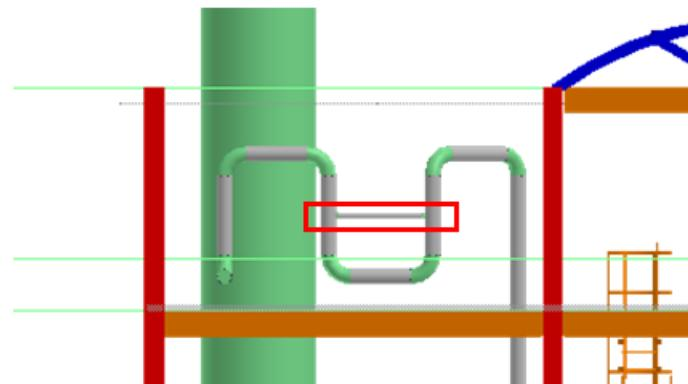

Figure 3.29: Placed Pipe
47. In the graphic view, move the cursor to the next pipe and use SmartSketch to find the intersection point. Click the intersection point to place the pipe *as shown in Figure 3.29*.